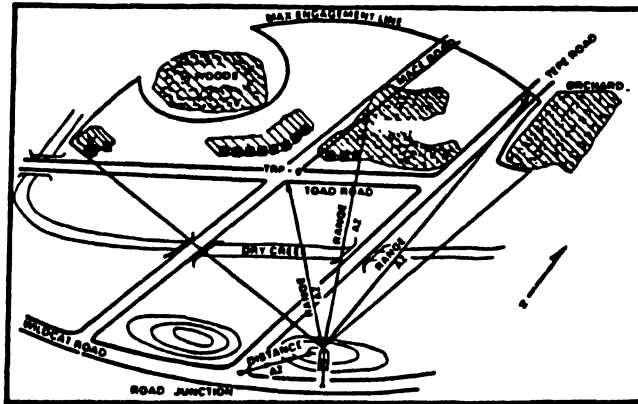

Fig 6-6. Indicating range/azimuth (TRP's).
4. Orient the range card with the terrain and determine the direction of magnetic north with a compass. Draw a magnetic north arrow properly oriented. Draw the TRP'S (target reference points) in your sector and label them. Then draw in the range and azimuth to the TRP's (fig 6-6).